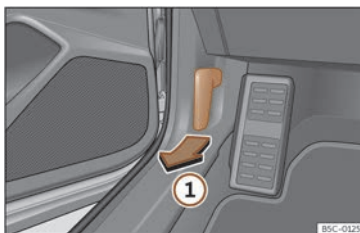

Fig. 213 Release lever in the driver's footwell area.
- Open the door and pull the lever that is underneath the instrument panel >>> **Fig. 213** ①.